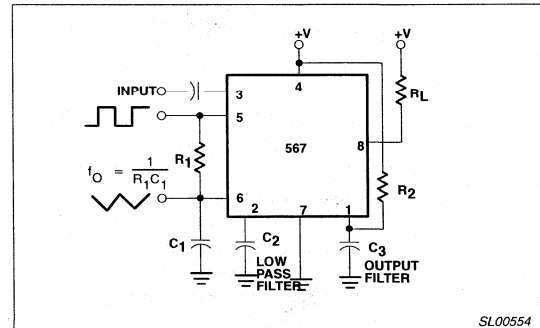

Figure 17.
- With R₂ = 130kΩ from Pin 1 to V₊. See Figure 17.
Figure 17 shows a typical connection diagram for the 567. For most applications, the following three-step procedure will be sufficient for choosing the external components R_1 , C_1 , C_2 and C_3 .
AVAILABLE OUTPUTS (Figure 17)